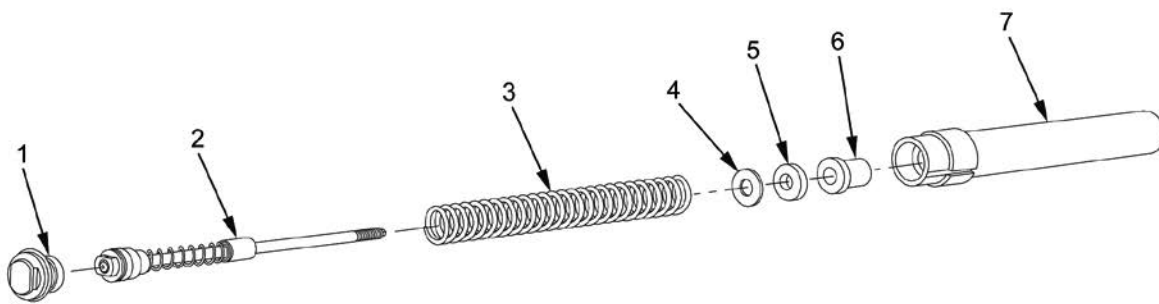

Figure 5. Assembly of Recoil Mechanism.
4. Install outer recoil spring (Figure 5, Item 3) to recoil spring assembly (Figure 5, Item 2).
5. Install sleeve bushing (Figure 5, Item 6), new rubber flat washer (Figure 5, Item 5), and flat washer (Figure 5, Item 4) into spring housing (Figure 5, Item 7).
6. Install recoil spring assembly (Figure 5, Item 2) with outer recoil spring (Figure 5, Item 3) into spring housing (Figure 5, Item 7).
7. Using recoil endcap (Figure 5, Item 1), compress outer recoil spring (Figure 5, Item 3). Tighten recoil endcap to retain spring compression.
8. Install new bumper (Figure 5, Item 5) to spring housing (Figure 5, Item 1). Position bumper against collar of housing.